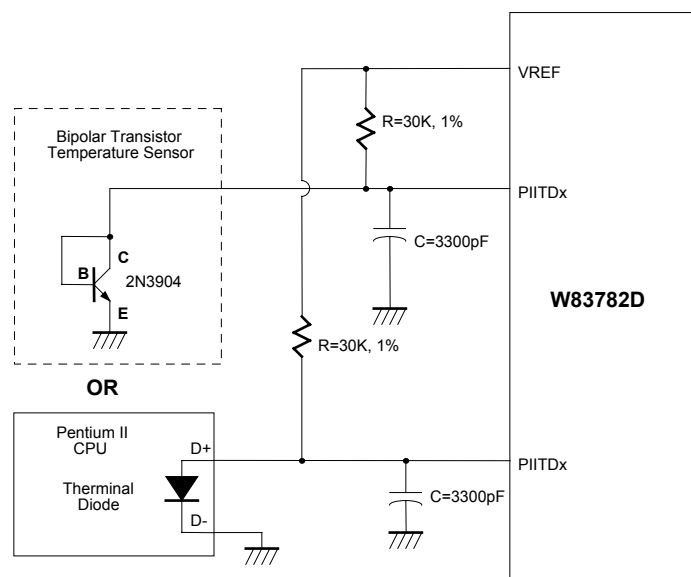

Figure 12.
The W83782D can alternate the thermistor to Pentium II™ (Deschutes) thermal diode interface or transistor 2N3904 and the circuit connection is shown as Figure 12. The pin of Pentium II™ D- is connected to power supply ground (GND) and the pin D+ is connected to pin PIITDx in the W83782D. The resistor R=30K ohms should be connected to VREF to supply the diode bias current and the bypass capacitor C=3300pF should be added to filter the high frequency noise. The transistor 2N3904 should be connected to a form with a diode, that is, the Base (B) and Collector (C) in the 2N3904 should be tied together to act as a thermal diode.